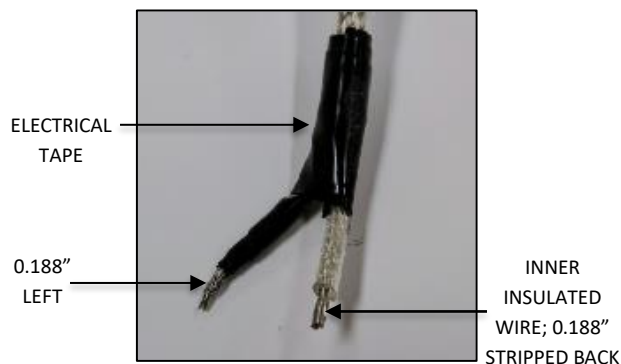
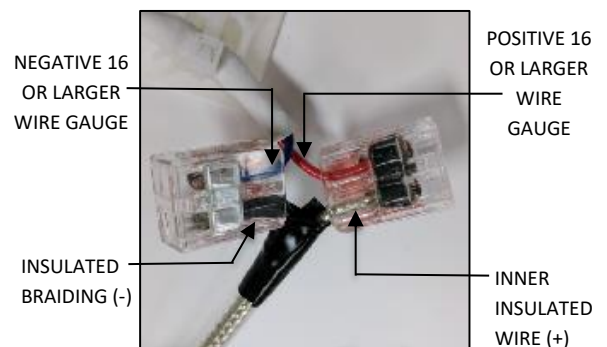

FIG. 34
FIG. 35
- Using electrical tape, insulate the twisted strands leaving 0.188" exposed for connections. Strip off 0.188" of the inner insulation as you normally would for 18AWG stranded core wire as shown in FIG. 34 below. Connect the inner insulated wire (+) to the positive 16 gauge or larger wire ran in step 5 at the hanging bracket and Connect the outer braiding (-) to the negative 16 gauge or larger wire ran in step 5 at the hanging bracket FIG. 35 below.